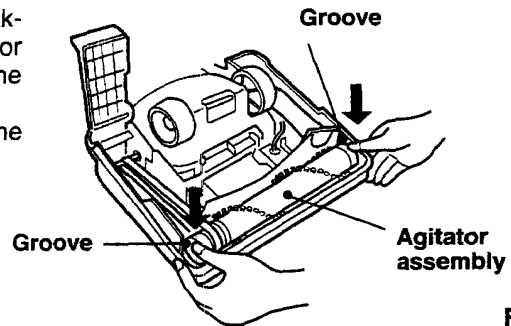

Fig. 26
- 4** Then reinsert the agitator assembly, making sure that both ends of the agitator assembly are fitted into the groove of the nozzle head. (Fig. 26)